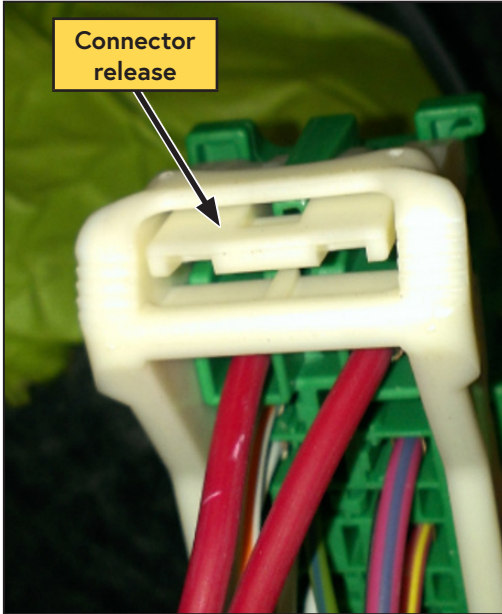

Figure 39 — Accessing PDC connectors
- Locate the green connector on the bottom of the PDC housing; remove the connector by pushing on the release (Figure 39).